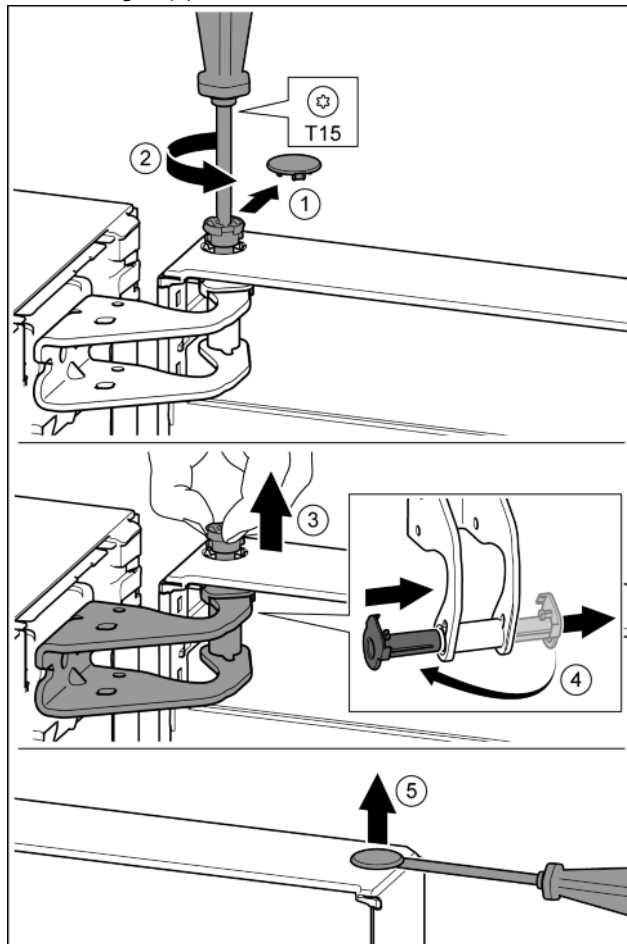

Fig. 10
- Carefully remove the protective cover. Fig. 10 (1)
- Undo the bolt a little with a T15 screwdriver. Fig. 10 (2)
- Hold the door and remove the bolts with your fingers. Fig. 10 (3)
- Pull the bearing bush out of the guide. Insert from the other side and click into place. Fig. 10 (4)
- Carefully lift the plugs out of the door bearing bush with a slotted screwdriver and remove. Fig. 10 (5)